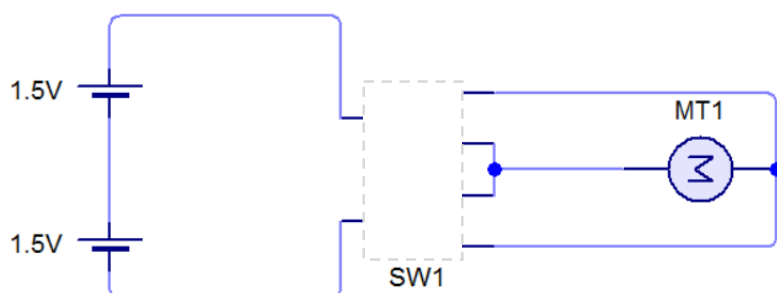

Figure 5 – Circuit 4
a) Opening or closing the garage door requires a switch which is able to rotate the motor in opposite directions. The circuit shown in figure 5 simulates the opening and closing of the garage door by using a specific type of switch which can operate a motor in a clockwise or anticlockwise direction.
- i) What type of switch is used for the system explained in the block diagram in figure 5?